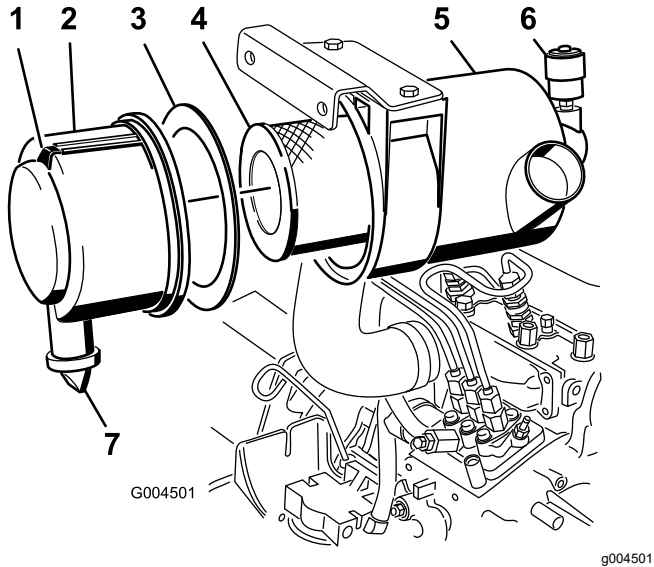

Figure 39
3. Service the air-cleaner filter when the air-cleaner indicator shows red (Figure 39).